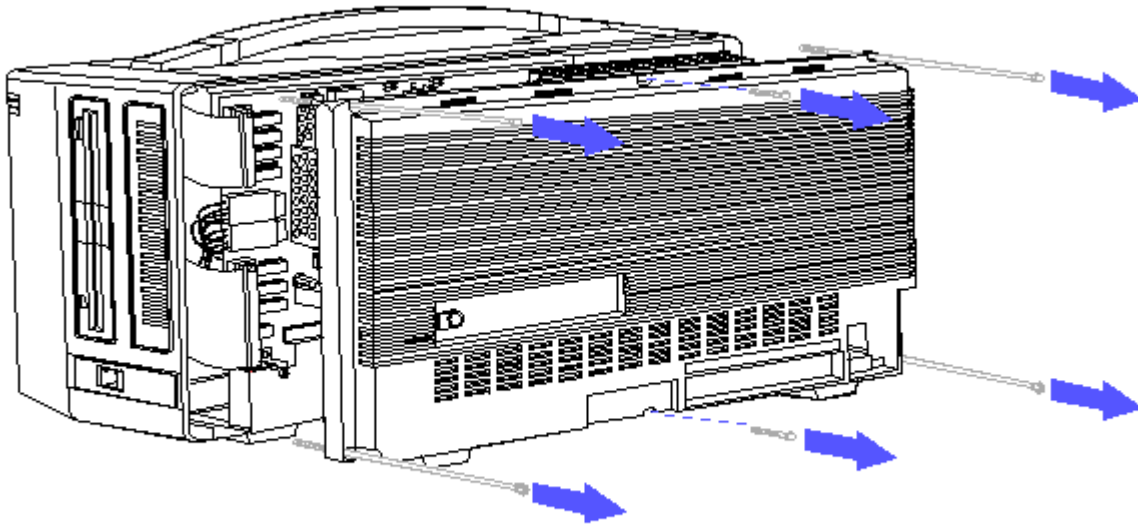

Figure 8-4. Removing the Screws from the Rear Panel
3. Remove the six screws and washers that secure the rear panel to the computer (Figure 8-4). Note that the two screws you removed from the center position are shorter than the other four screws.